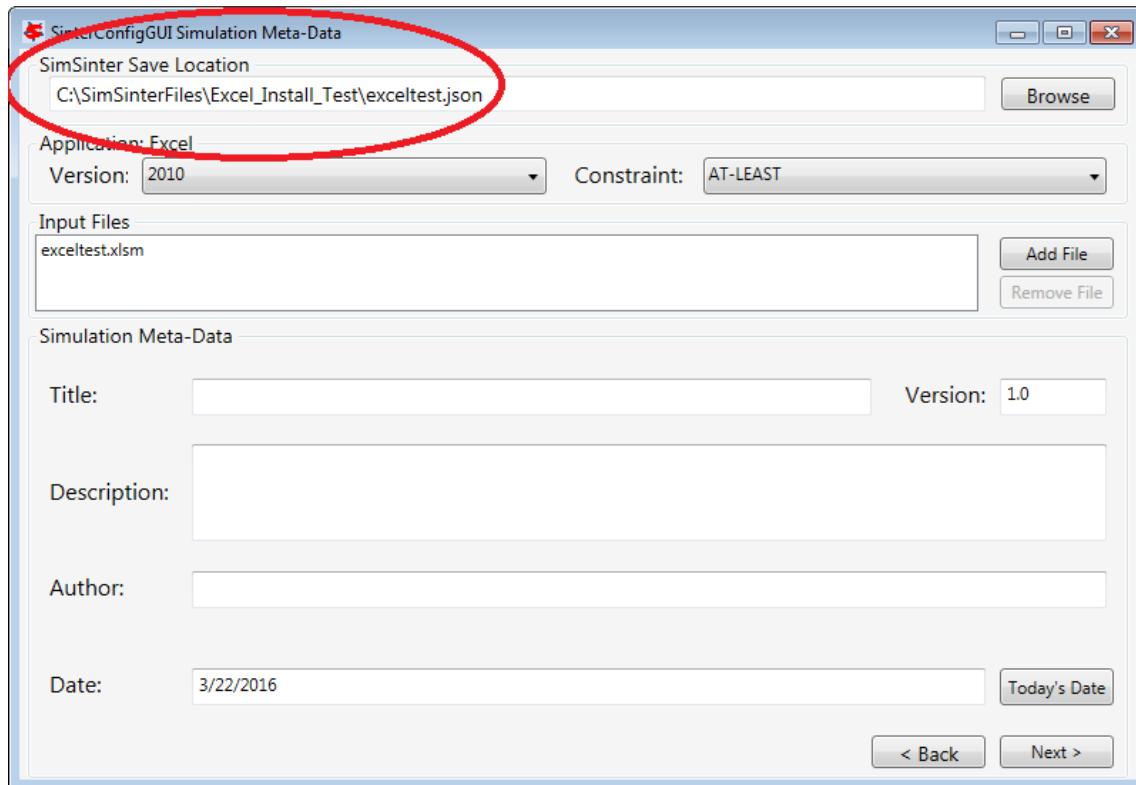

Figure 29: SimSinter Save Location.
4. The SinterConfigGUI Simulation Meta-Data window displays as shown in Figure 29. The first and most important piece of meta-data is the “SimSinter Save Location” at the top of the window. This is where the Sinter configuration file is saved. The system suggests a file location and name. The user should confirm that this is the intended location of the files to not accidentally overwrite other files.